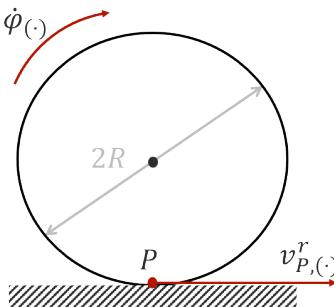

Figure 6.3. Pure rolling kinematic constraint
- *Pure rolling*: the wheels never slips or skids (Figure 6.3). Recalling that  $R$  is the radius of the wheels (identical) and letting  $\dot{\varphi}_l$ ,  $\dot{\varphi}_r$  be the angular velocities of the left and right wheels respectively, the velocity of the ground contact point  $P$  in the robot frame is given by: